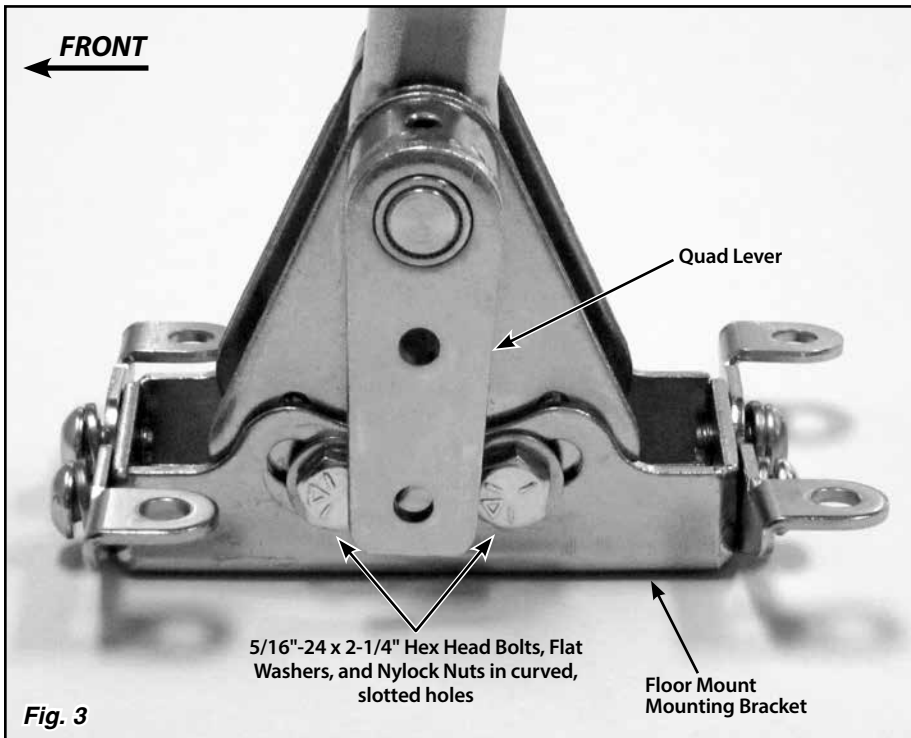

Fig. 3
Step 4: Make sure the two 5/16"-24 x 2-1/4" hex head bolts and nylock nuts that are in the curved, slotted holes in the floor mount mounting bracket are tight. Place the Shifter in the desired location on the vehicle's floor. Make sure the shifter lever will not interfere with the dash when in Park, or with the seat when in low gear (you may need to temporarily install your shifter lever to verify). The shifter assembly may be tilted forward or backward if needed by loosening the nylock nuts on the two 5/16"-24 x 2-1/4" hex head bolts that are in the curved, slotted holes in the floor mount mounting bracket. Retighten the nylock nuts once you have the shifter assembly at the angle you want. **Fig. 3**